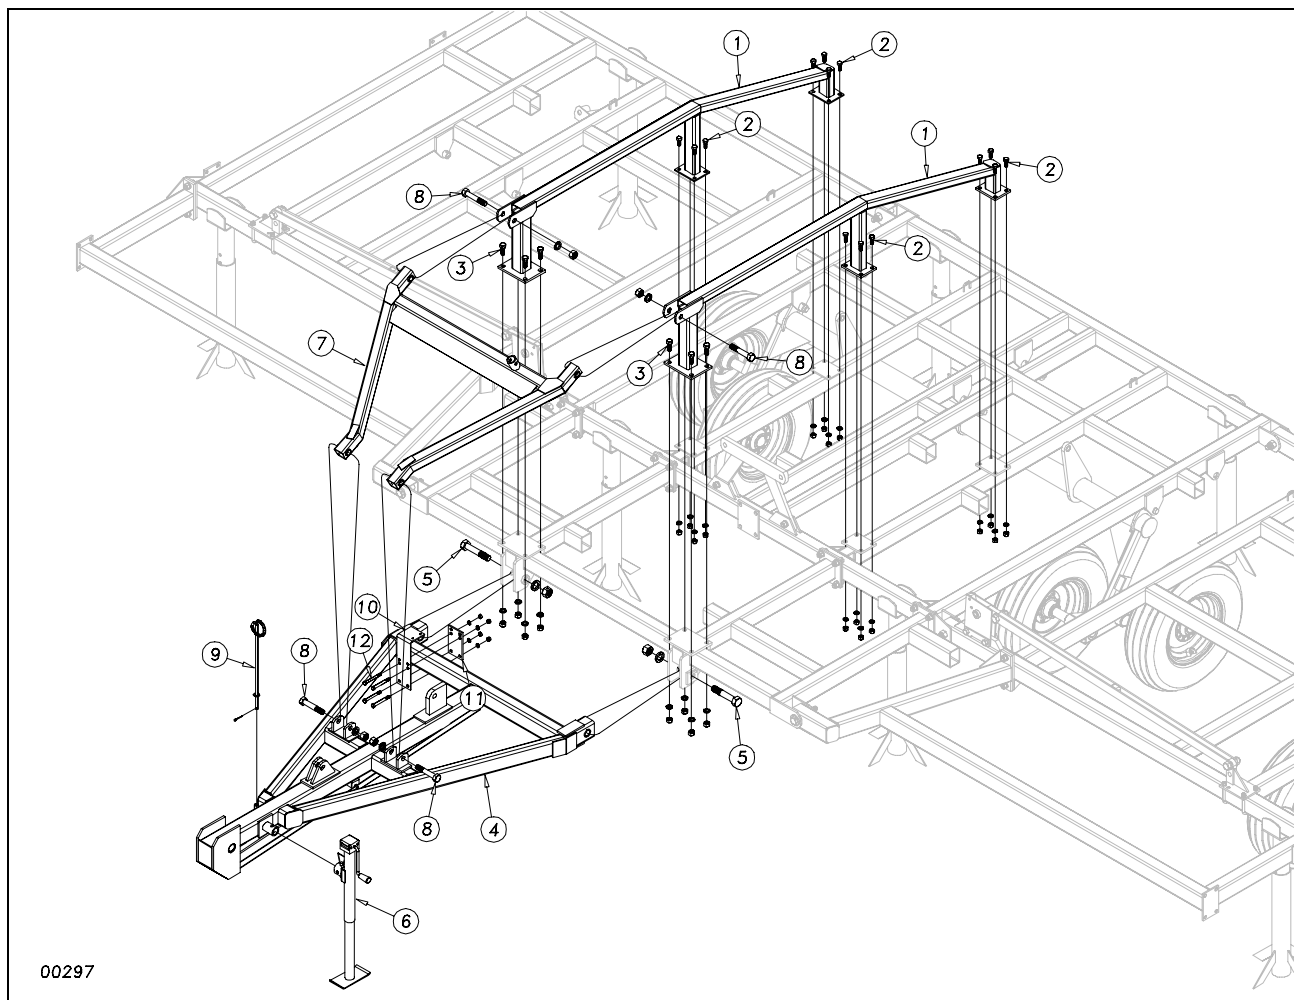

Figure 5
Bolt the two center frame trusses (1) Figure 5, to the top side of the center frame and brace bar. Use 3/4 x 2 bolts (3) on the front plates and 5/8 x 1 1/2 bolts (2) on the rear two plates. Use lock washers and hex nuts on all of these bolts.